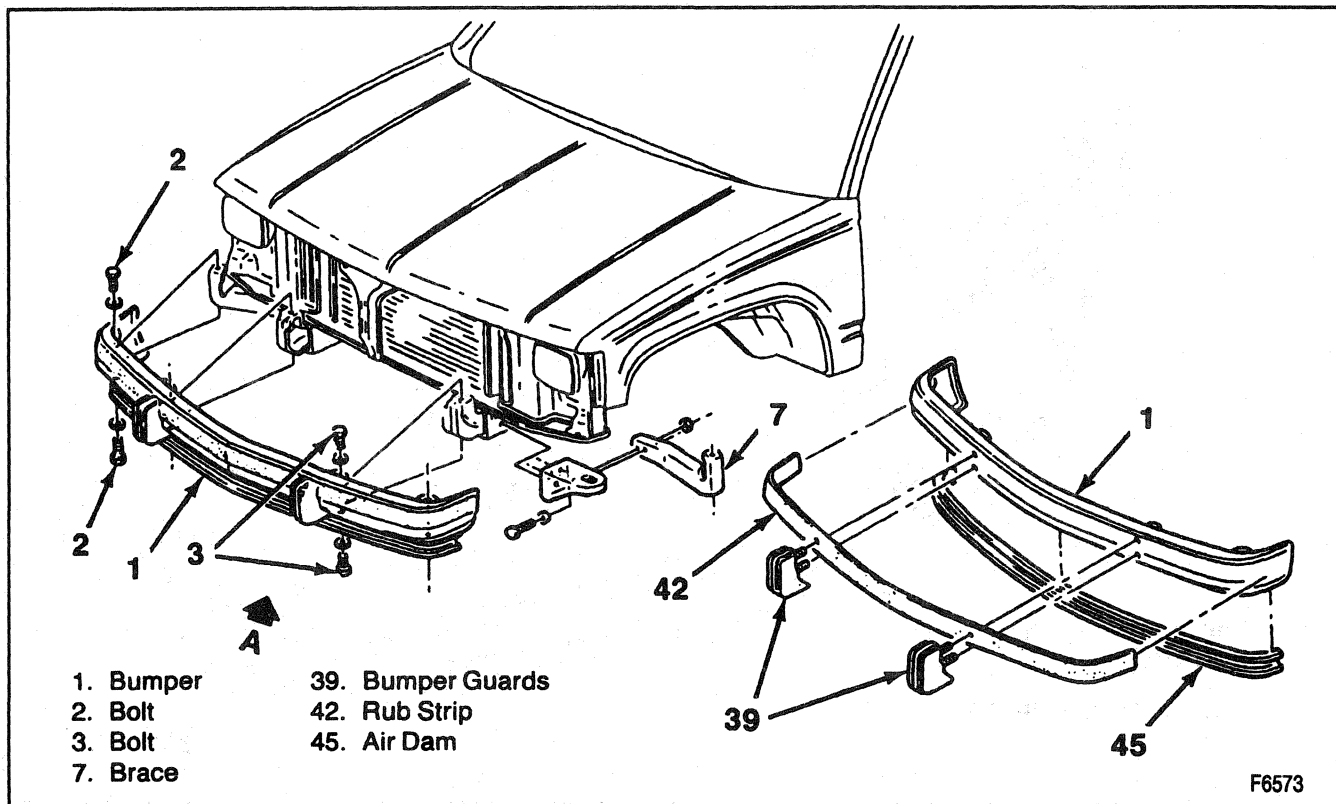

Figure 13—Bumper Assembly Components
5. Guards from the bumper (if equipped) (Figure 13).